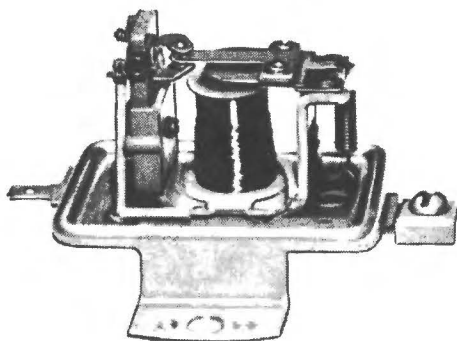

Fig. 7 - Voltage Regulator Cover Removed.
The voltage regulator (Fig. 7) has two sets of contacts using a common single armature. The upper and lower stationary contact brackets are mounted on a moulded plastic bracket which is attached to the regulator frame by a screw.
(1) When the battery line voltage is relatively low, the current flow through the voltage coil will be low. The magnetic force (or pull) of the voltage coil will not be great enough to overcome the regulator armature spring tension which is holding the armature contact against the upper stationary contact (Fig. 7).